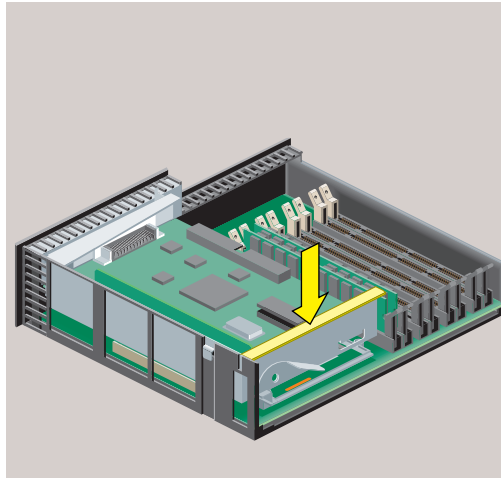

Figure 2-18 PCI Tray Seated Correctly
8. Push the tray down firmly until it is completely seated. Check that the lever returns to its starting position (Figure 2-18).